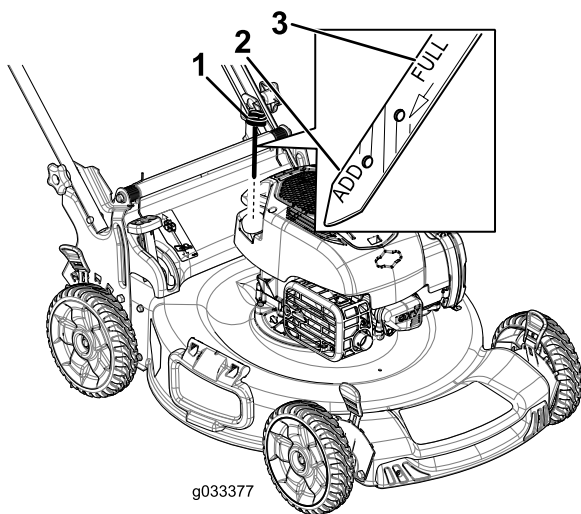

Figure 8
2. Remove the dipstick by rotating the cap counterclockwise and pulling it out (Figure 8).
7. Read the oil level on the dipstick (Figure 8).